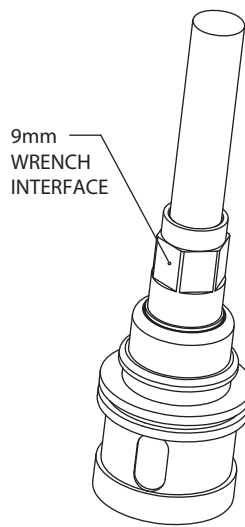

FIGURE 2
- B. Using a 9mm wrench or the retention ferrule tool (Glenair P/N 607-011), tighten the outer shield ferrule to a torque of 8-10 in-lb. (Figure 2)